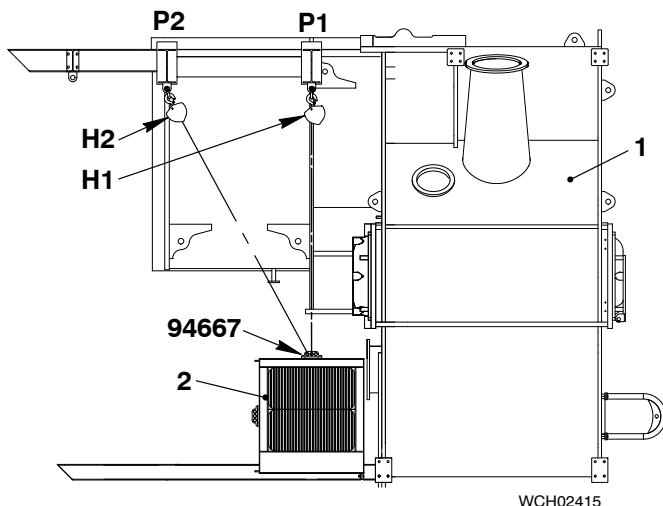
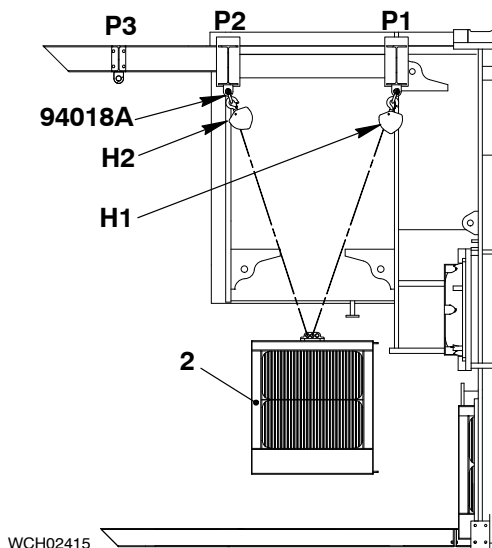
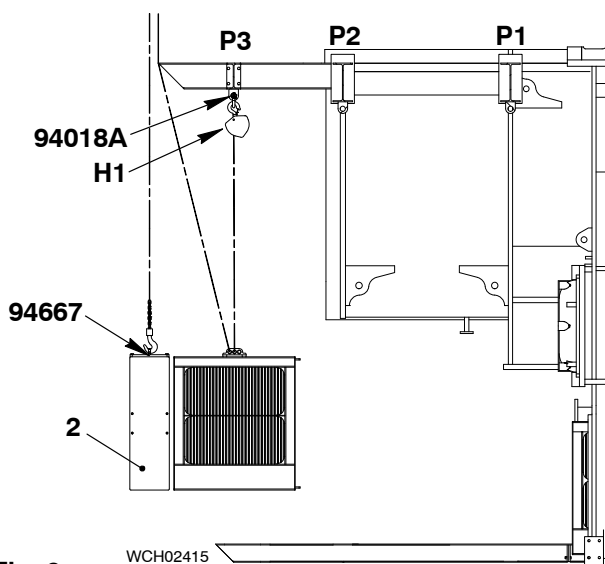

Fig. 7
Fig. 8
Fig. 9
13) Attach the manual ratchet (H2, Fig. 7) to the tool (94667) on the water separator (2).
14) Remove the manual ratchet (H4) from the rear of the water separator (2).
15) Attach the shackle (94018A, Fig. 8) to the gallery.
17) Attach the manual ratchet (H2) to the lifting tool (94667) on the water separator (2).
18) Operate the manual ratchet (H1) to increase the tension. At the same time, operate the manual ratchet (H2) to decrease tension and keep the water separator level (2).
21) Attach the manual ratchet (H1) to the lifting tool 94667 of water separator (2).
22) Operate the manual ratchet (H1, Fig. 9) to increase the tension. At the same time, operate the manual ratchet (H2) to decrease tension and keep the water separator level (2).
24) Lower the water separator (2) on to an applicable surface.
25) Remove the engine room crane from the water separator (2).
26) Remove the tool (94667) from the water separator (2).